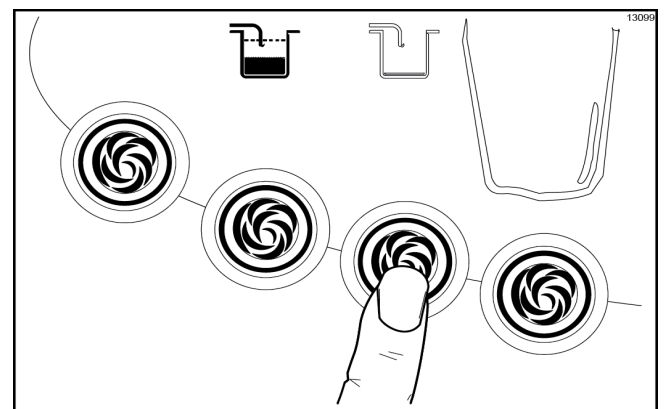

Figure-36
24. Press the corresponding syrup Flavor symbol . The Flavor symbol should be illuminated and the syrup pump for the selected flavor will start running at the maximum speed. (See Figure-36.)